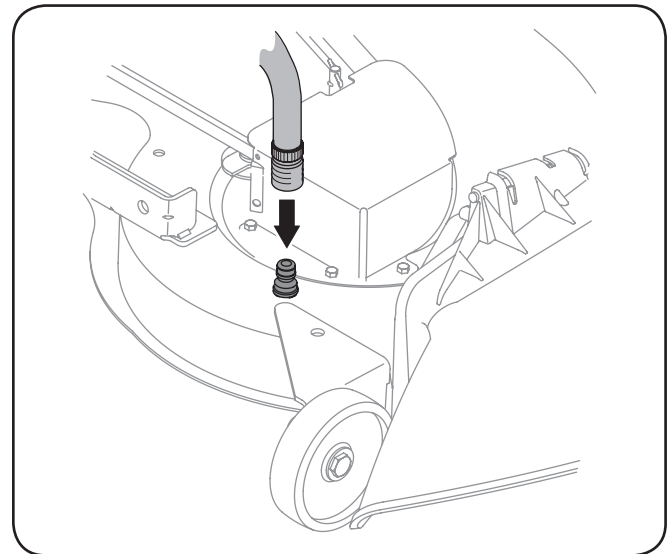

Figure 6-3
4. Attach the hose coupler to the water port on the deck's surface. See Fig. 6-3.